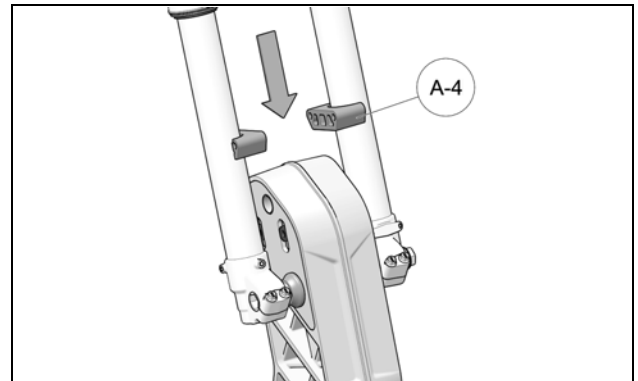

Figure 19
- Position Interior Clamps (A-4) on the front fork. The clearance bore must be positioned upward. Figure 19.